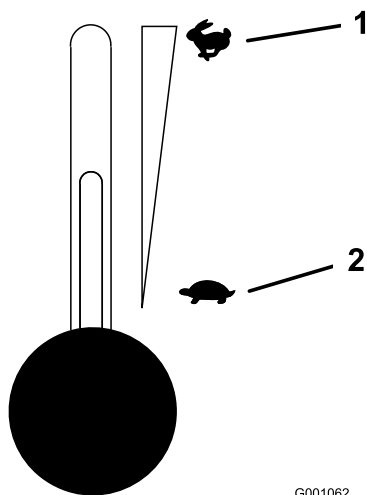

Figure 14
5. Move the throttle control to the Fast position before starting a cold engine (Figure 14).
2. Move the throttle lever midway between the slow and fast positions (Figure 14).